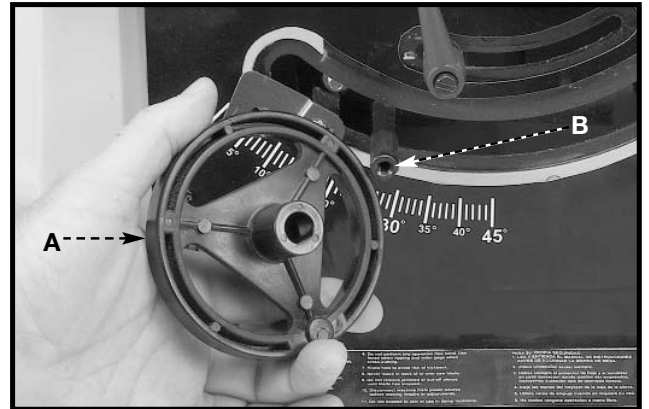

Fig. 6
2. Attach the handwheel (A) Fig. 6 to the shaft (B). Align the flat on the inside of the handwheel to the flat on the shaft.